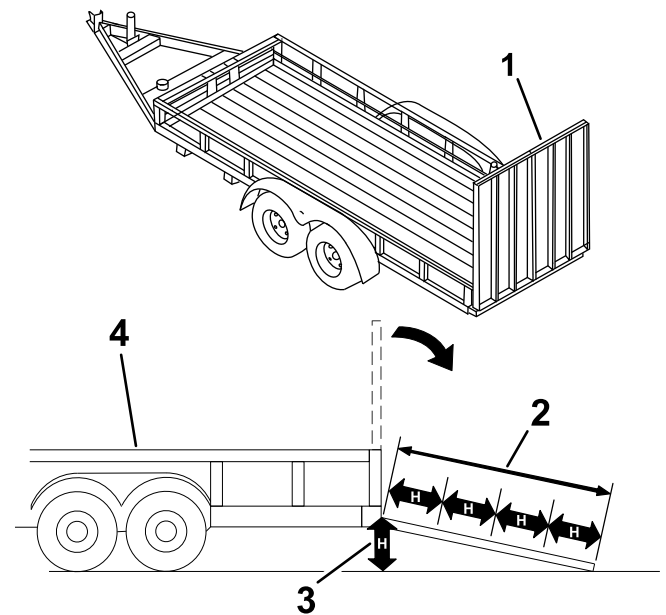

Figure 30
Loading a machine onto a trailer or truck increases the possibility of tip-over and could cause serious injury or death (Figure 30).
3. Lower the ramp (Figure 30).